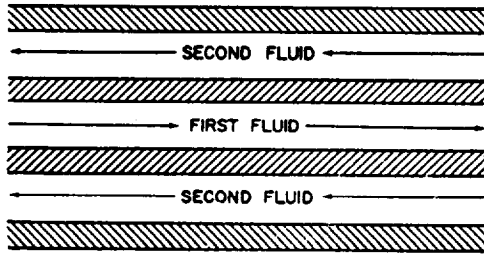

Figure 6-34.—Counterflow in heat exchanger.
**COUNTERFLOW.**—In counterflow (fig. 6-34), the two fluids flow in opposite directions. Counterflow heat exchangers are used in many applications that require large temperature changes in the cooled or heated fluids. Fuel oil heaters, lube oil coolers, and many internal-combustion engine coolers are examples of this type.